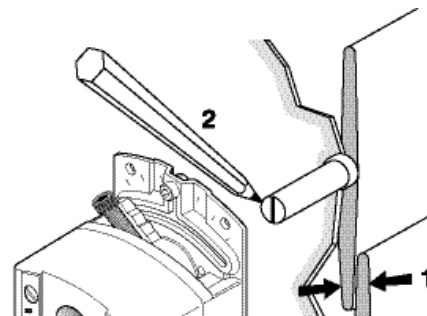

Figure 6. Mounting Actuator to Damper Shaft.
The DC(M)-88 Series Enhanced actuator comes with a factory-installed 1/2-inch shaft guide. If the shaft size is 1/2-inch, proceed with Figure 6.
2. Mount actuator to shaft per Figure 6.
3. Proceed to Figure 6